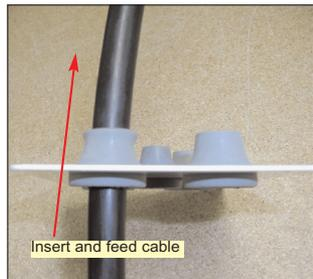

Fig. 22
- Insert the blunt end of the cable to be spliced into the grommet. Feed the cable so that approximately 12 inches more than the recommended breakout is exposed above the grommet (Fig. 22).